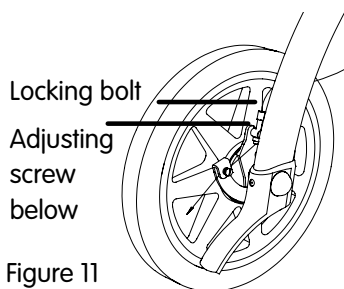

Figure 11
1. Adjustment below (Figure 11)